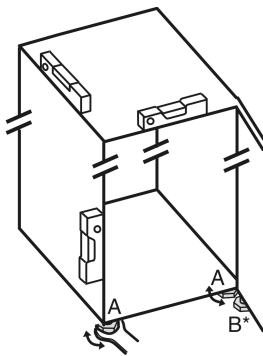

Fig. 4
- ▶ Unscrew the adjustable feet Fig. 4 (A) using the enclosed open-end spanner and a spirit level until the appliance is firmly aligned and level.
- ▶ Unscrew the adjustable foot Fig. 4 (B) on the swap bearing block with the enclosed open-end spanner until it rests on the floor.
- ▶ Turn the adjustable foot Fig. 4 (B) 90° further.